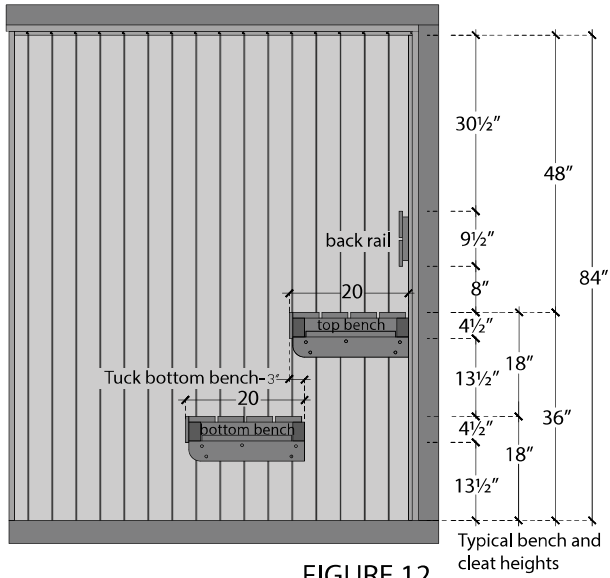

FIGURE 12
1.-When installing the bench, ensure to securely fix the bench cleats to the wall for better stability and support. This ensures the bench can safely bear weight. Use appropriate hardware and follow shop guidelines for the installation process. (See figures 12 and 13).